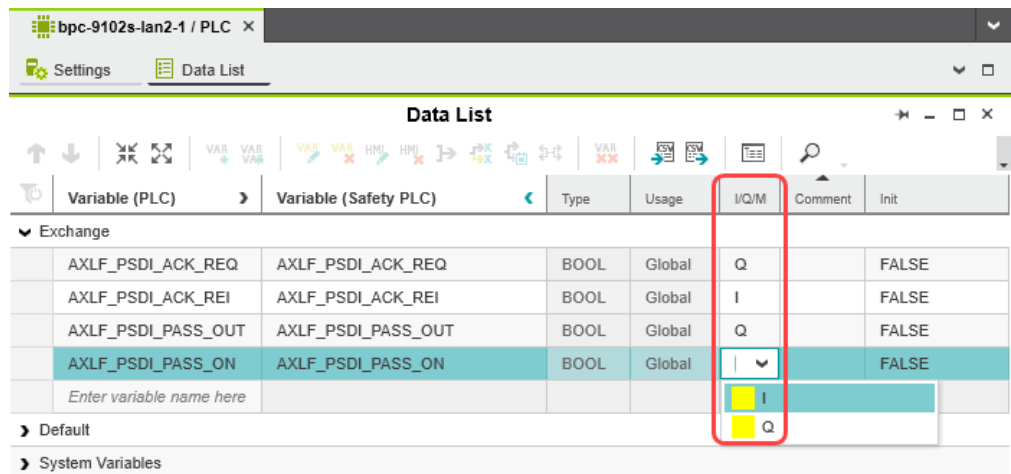

Figure 6-40 Setting the data direction
- Set the data direction in turn for each variable created earlier as shown in Figure 6-40.